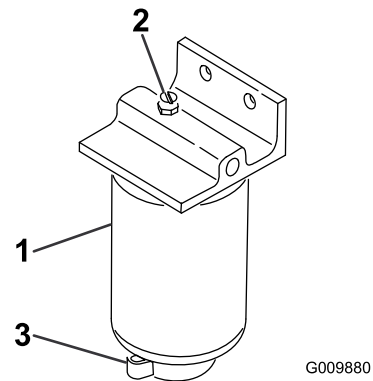

Figure 65
2. Loosen the drain valve on the bottom of the filter canister (Figure 65).
1. Clean the area where the filter canister mounts (Figure 65).